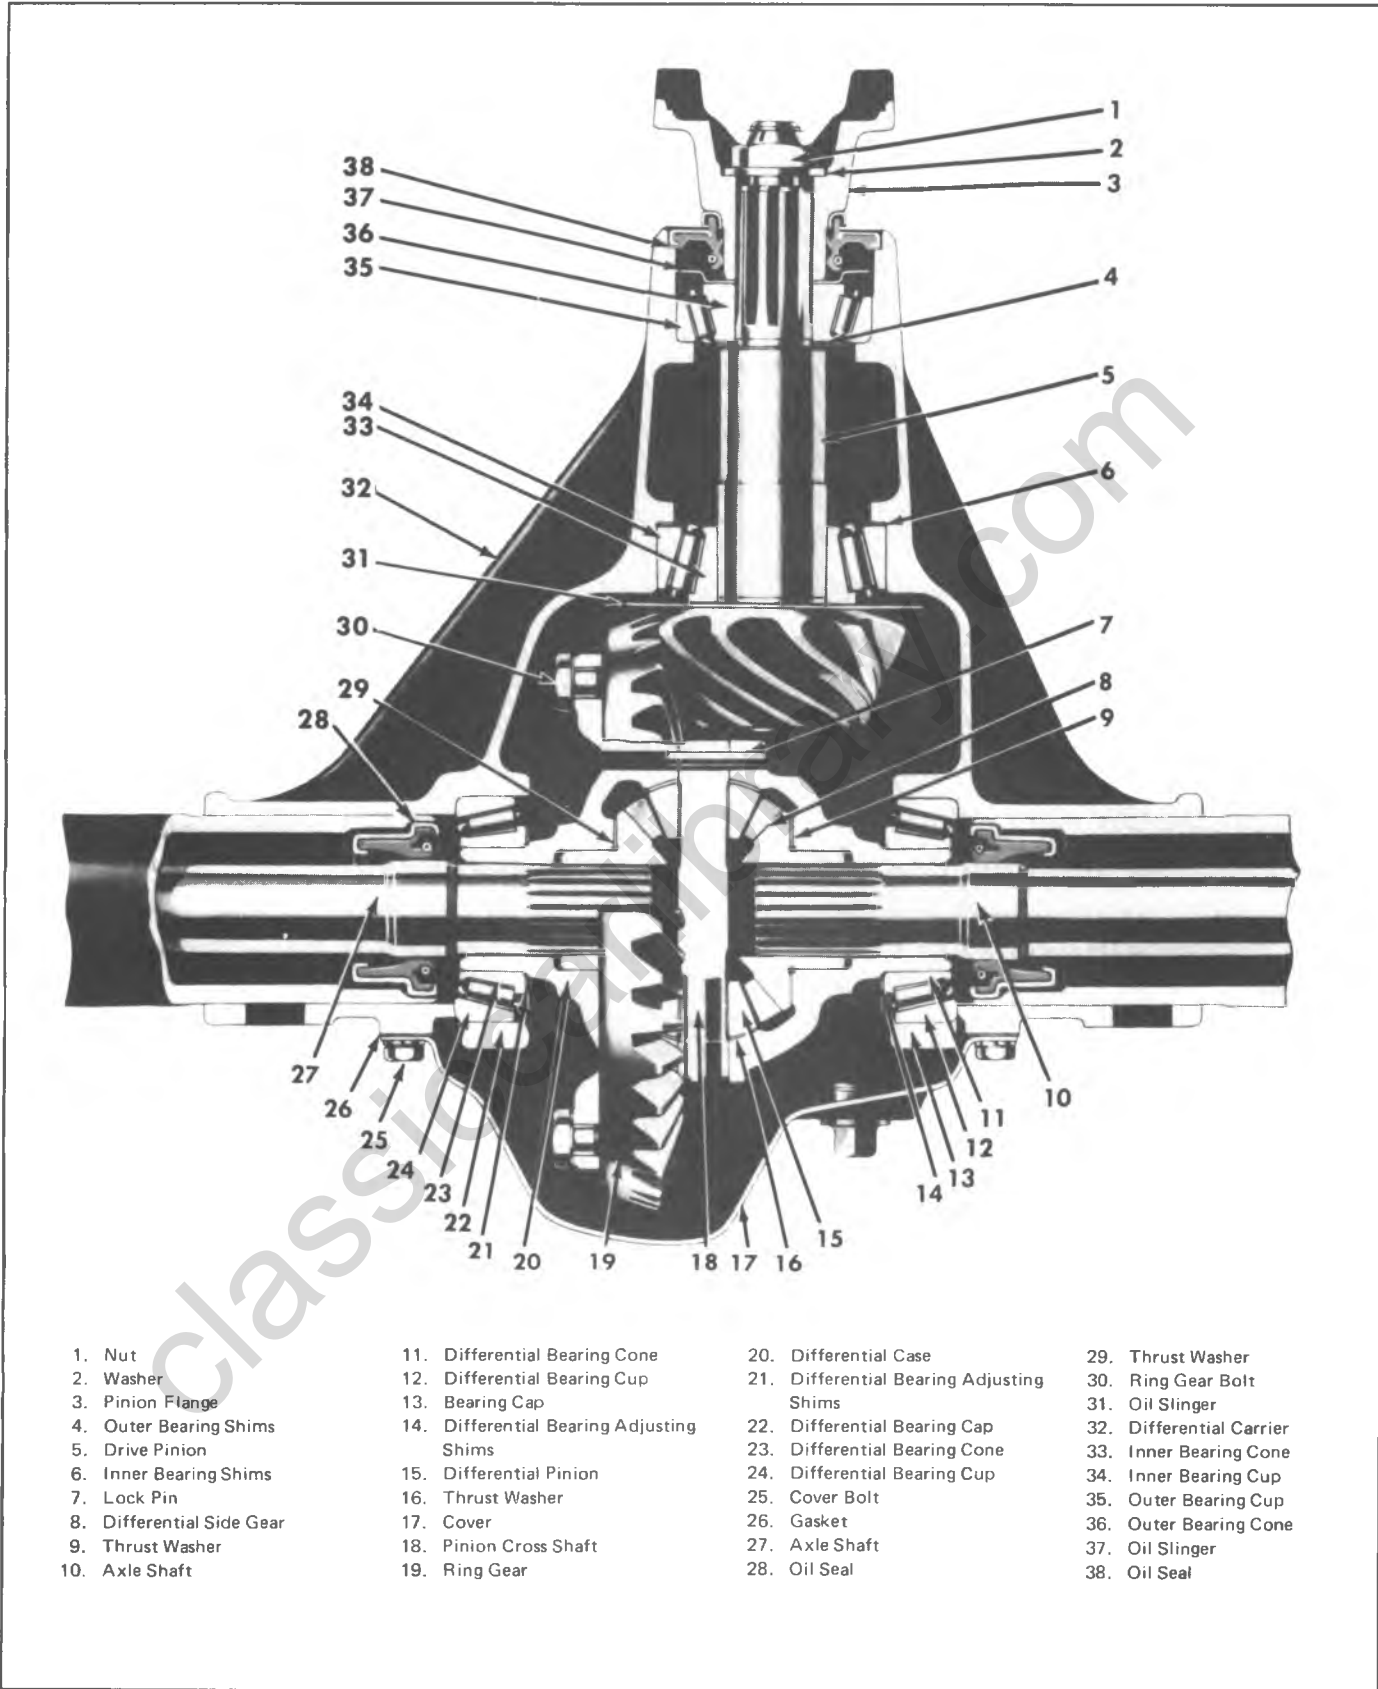

Fig. 4C-3--Front Axle Differential Assembly
The axle shaft inner oil seals are located just outboard of the differential bearings, item 28 Fig. 4C-3. They can be replaced only after the differential is removed from the carrier, using tool J-28648.